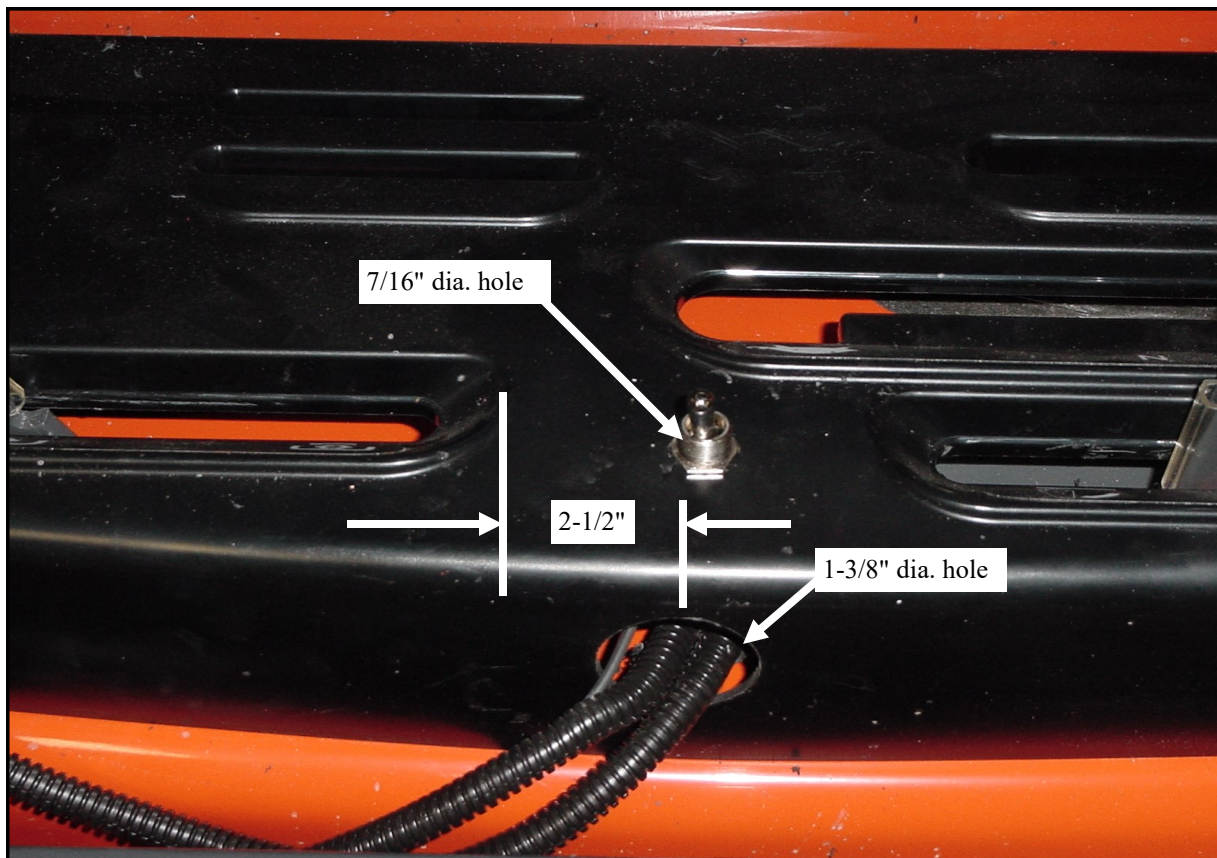

Fig. 1
- A. The toggle switch should be installed to the plastic shroud around the controls on the right fender. Per figure 1, start by drilling a 7/16" hole centered between the attachment height control and the PTO engagement levers. **CAUTION: check clearance under shroud by reaching through speed control slot before drilling to avoid damage.**
- B. Per the dimensions in figure 1, drill a 1-3/8" hole in the side of the plastic shroud to facilitate installing and wiring the switch.